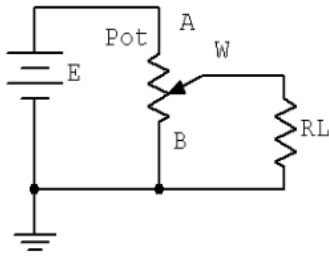

Figure 2.1
3. Construct the circuit of Figure 2.1 using $E = 10$ volts, a 10 k potentiometer and leave R_L open. Rotate the knob fully counter-clockwise and measure the voltage from the wiper to ground. Record this value in Table 3.2. Continue taking and recording voltages as the knob is rotated to the other four positions in Table 3.2.